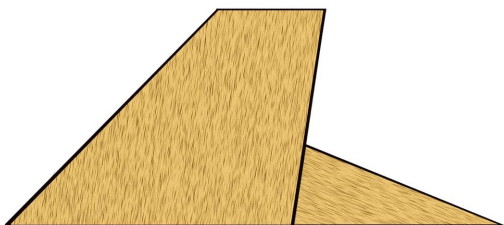

Figure 2
- **Step 3** Cut out the subfins from 1/16" sheet stock and set aside. Cut out the pieces for the vertical fins and assemble them as shown in Fig. 2 on a piece of wax paper, aligning the root edges of the strakes to their respective main fins. Do the same for the main fins as shown in Fig. 3. Weight or clamp them down flat to the building surface, and leave these alone for an hour to dry.